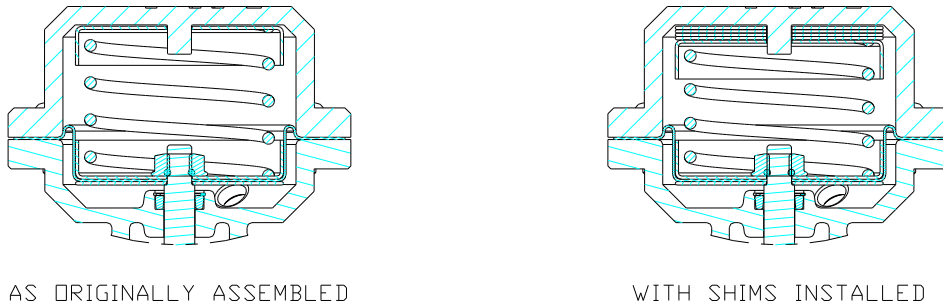

Figure 3:
- To increase spring preload by a small amount, install 2 or 3 shims between the top spring retainer and the actuator cover (refer to Figure 3), re-assemble and road test to verify new setting.